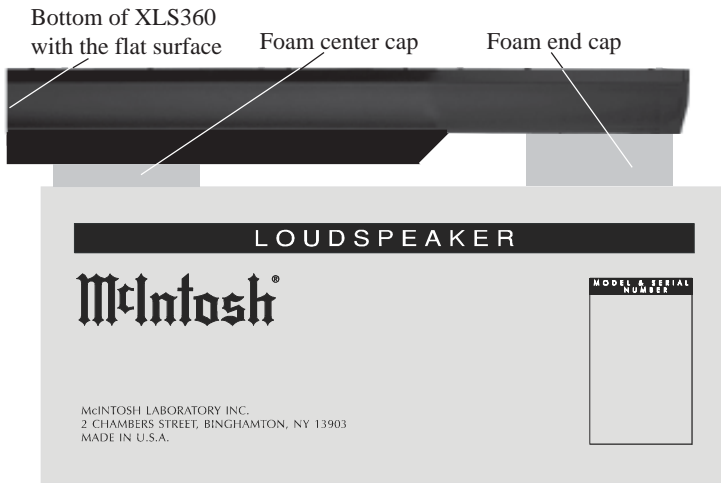

Figure 6
- Replace the shipping carton top onto the shipping carton bottom. Place one foam end cap and one foam center cap on top of the carton. Refer to figure 6 on the next page.
- Place the Loudspeaker System, with the front facing up, on foam end caps located on top of the shipping carton, with the bottom of the XLS360 overhanging the end of the shipping carton. Refer to figure 6 on the next page.